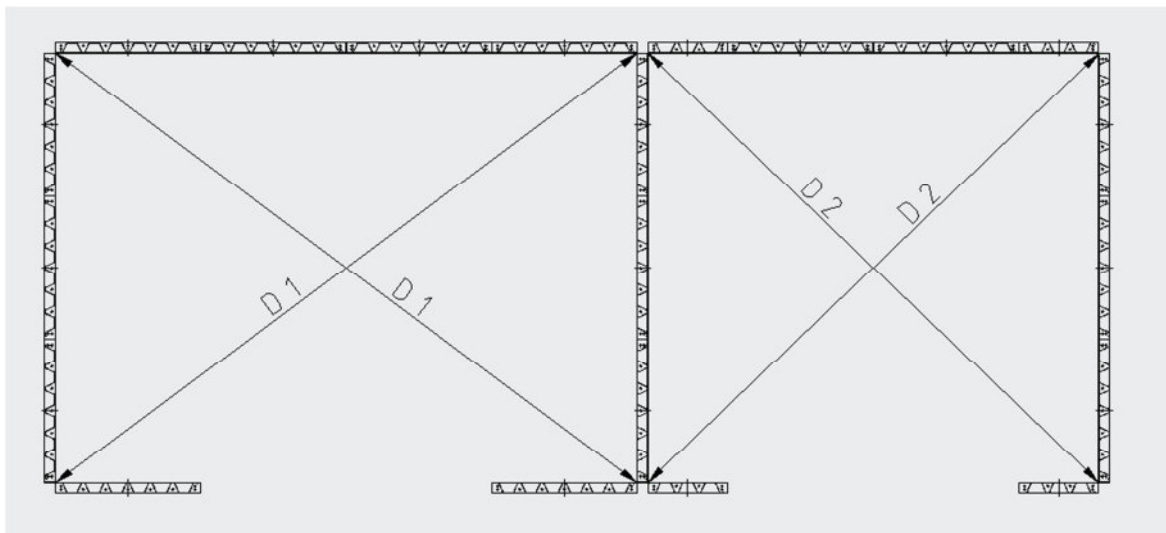

Fig. 11 Calibration and angle control diagonal
3.2.2 Calibration and marking of the plant outline at the ground plate. In this course ensure the right angle of the facility by controlling the diagonal (see Fig. 11)